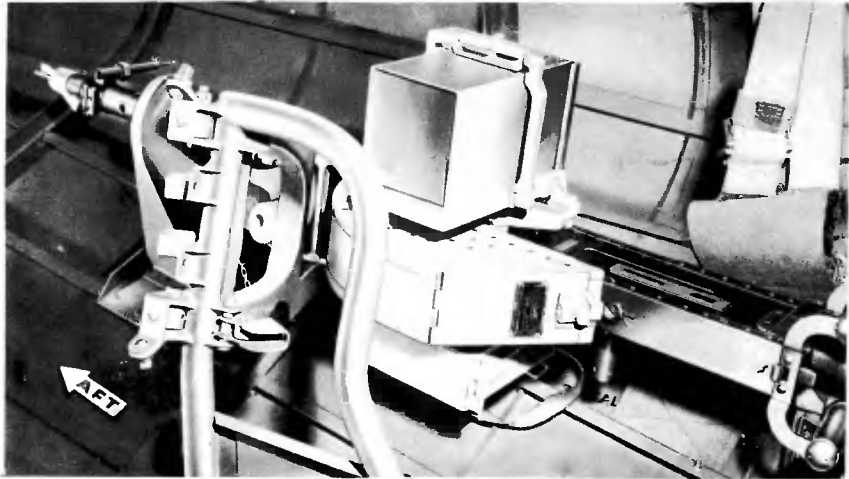

Figure 53—Tunnel Gun Stowed
c. TUNNEL GUN. (See figures 53 and 54.)—To place the gun in firing position: